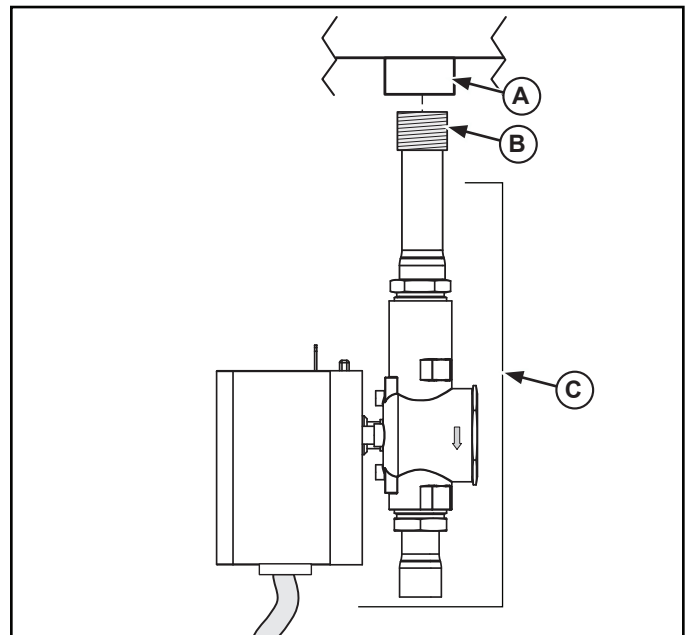

Figure 2. Manifold Assembly and Well Fitting.
4. Place a small bead of high temperature NSF listed silicone on the threads on fitting (B) of the valve assembly (C). See Figure 2.